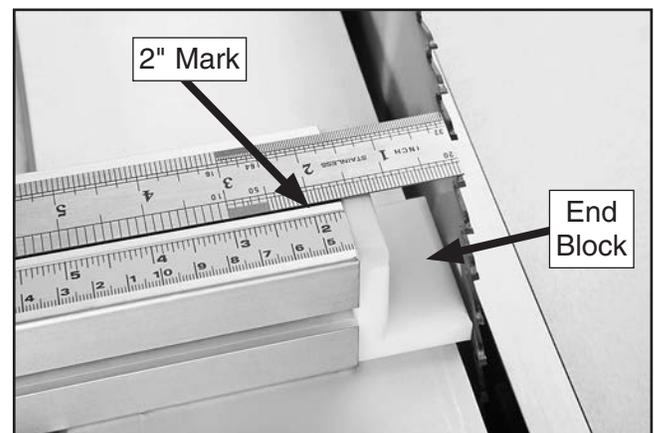

Figure 48. Setting the correct space between the crosscut fence and blade.
54. Using the precision ruler against a tooth of the blade, adjust the fence so that the 2" mark on the fence scale is exactly 2" from a blade tooth, as shown in **Figure 48**.